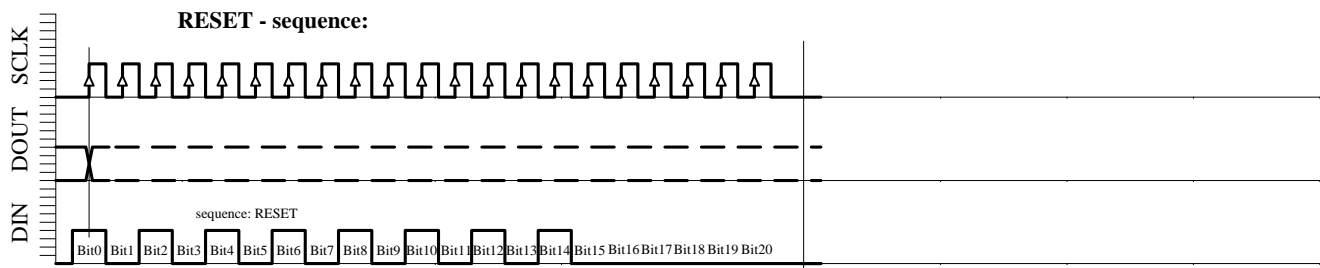

Fig. 6e: RESET sequence (21 bit)
- RESET sequence (Figure 6e)
The RESET sequence is special as the module in any state recognizes its unique pattern. By consequence, it can be used to restart if synchronization between the microcontroller and the MS5535-30C has been lost. This sequence is 21-bit long. The DOUT signal might change during that sequence (see Fig. 6e). It is recommended to send the RESET sequence before each CONVERSION sequence to avoid hanging up the protocol permanently in case of electrical interference.